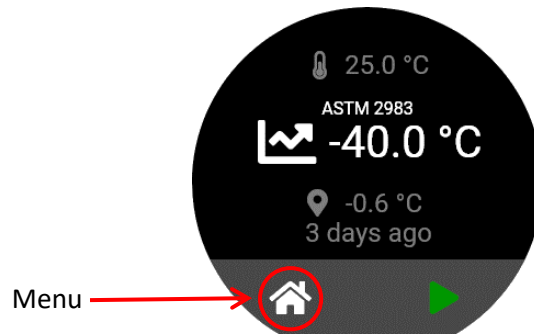

Figure 33: Menu Button
24. First, press the menu button. See Figure 33.